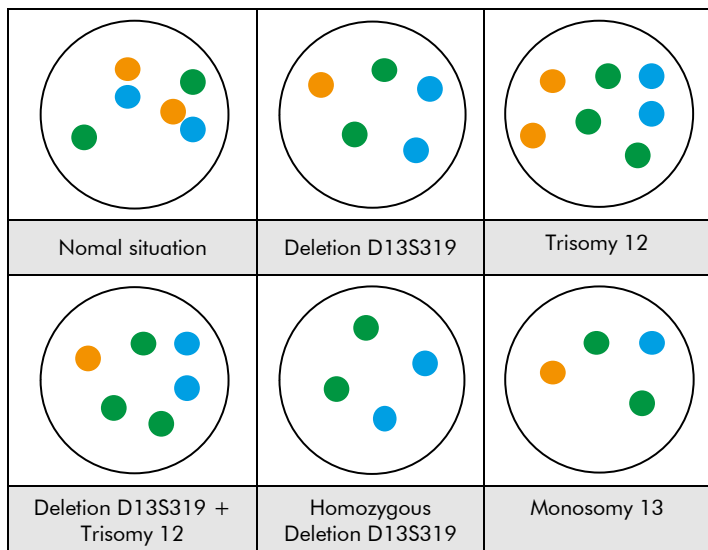

Fig. 2: Expected results in normal and aberrant nuclei
**Aberrant situation:** In a cell with deletions affecting the D13S319 locus, a reduced number of orange signals will be observed. Deletions affecting only parts of the D13S319 locus might result in a normal signal pattern with orange signals of reduced size. In a cell with monosomy 13, a reduced number of both, the orange (D13S319 locus) and blue (13q34 locus) signals will be observed. In a cell with trisomy or polysomy 12, three or more copies of the green signal will be observed, respectively (see Fig. 2).